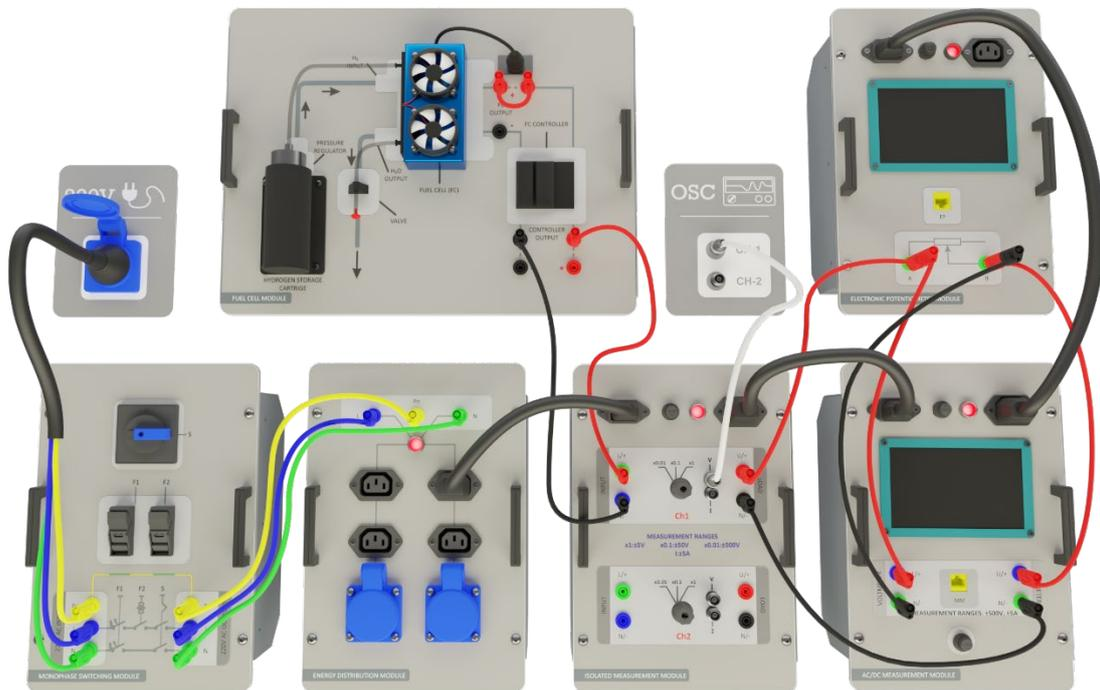

Figure-80. Installation Image of Examination of Hydrogen Fuel Cell DC/DC Converter Output Voltage Under Load with Oscilloscope
1. Connect the setup as illustrated in Figure-80. Make sure that the hydrogen battery is fully charged before use to avoid obtaining inaccurate results.
4. Start with a resistance setting of 1000Ω on the potentiometer. Gradually decrease the resistance according to the data specified in Table-60. As you adjust the potentiometer, record the voltage and current values on the AC/DC Measurement Module (MM).